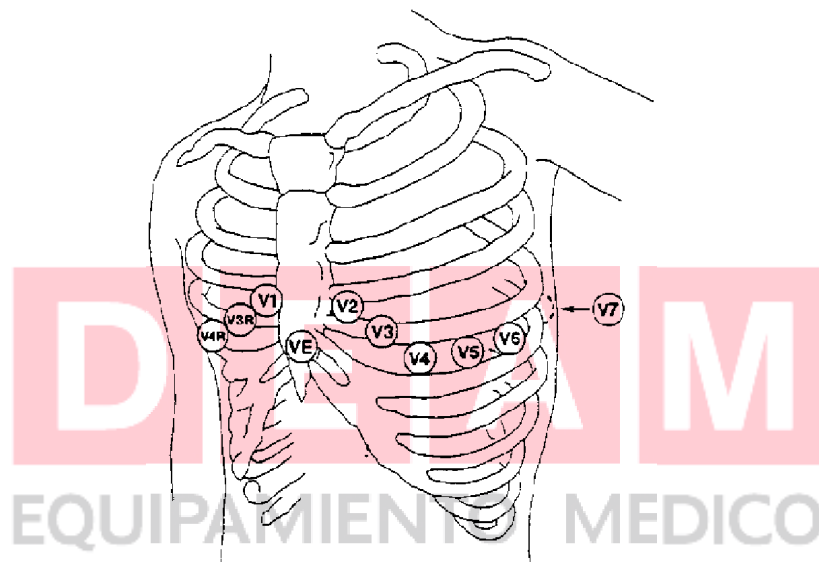

Figure12-3 C-Electrode Placement for 5-lead Set
- 👁 Red (R) electrode - Be placed near the right shoulder, directly below the clavicle.
- 👁 Yellow (L) electrode - Be placed near the left shoulder, directly below the clavicle.
- 👁 Black (N) electrode - Be placed on the right hypogastrium.
- 👁 Green (F) electrode - Be placed on the left hypogastrium.
- 👁 White (C) electrode - Be placed on the chest as illustrated in the Figure 12-3.
For 5-lead set, attach the C (V)-electrode to one of the indicated positions as below (Figure 12-3):